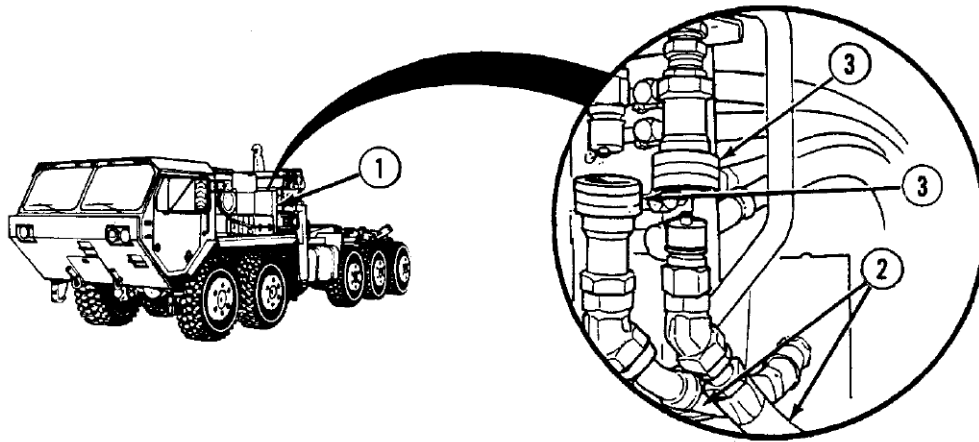

Figure 7.10 Donor Truck Connections
- 7.22.2.1 The quick disconnects are located on the back of the L/H box on the donor PLS truck (Figure 7.10 (1)).
- 7.22.2.2 Disconnect the hydraulic lines (Figure 7.10 (2)) on the donor truck at the quick disconnects (Figure 7.10 (3)) located on the back of the L/H control box (Figure 7.10 (1)).